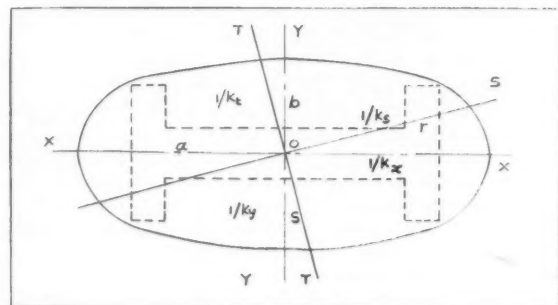

Fig. 2.—"1/k" ellipse
(2) Referring to Fig. 2, let the axes be taken similarly but in this case let the reciprocals of the radii of gyration be taken along the actual axes to which they refer. It may be shown that any actual radius of the ellipse is proportional to the reciprocal of the corresponding radius